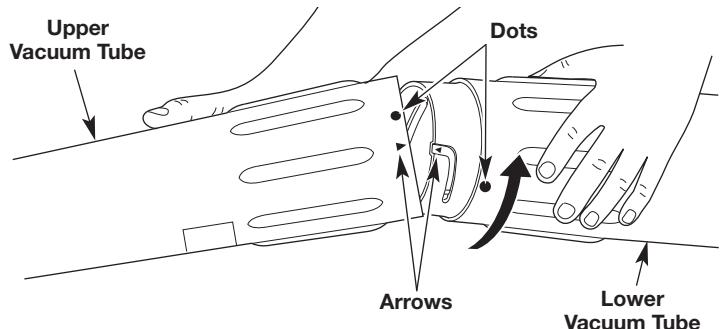

Fig. 5
1. Align the arrow on the lower vacuum tube with the arrow on the upper vacuum tube (Fig. 5).
2. Insert the lower vacuum tube into the upper vacuum tube (Fig. 5).
3. Twist the lower vacuum tube clockwise with both hands until it locks into place (Fig. 5).
NOTE: When properly assembled, the dot on the lower vacuum tube should align with the dot on the upper vacuum tube (Fig. 5).